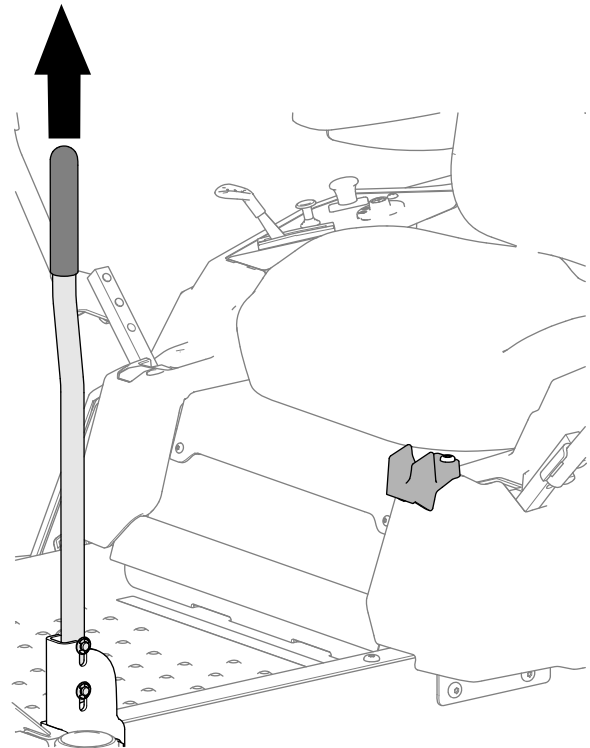

Figure 11
1. Lift the assist handle as shown in Figure 11.